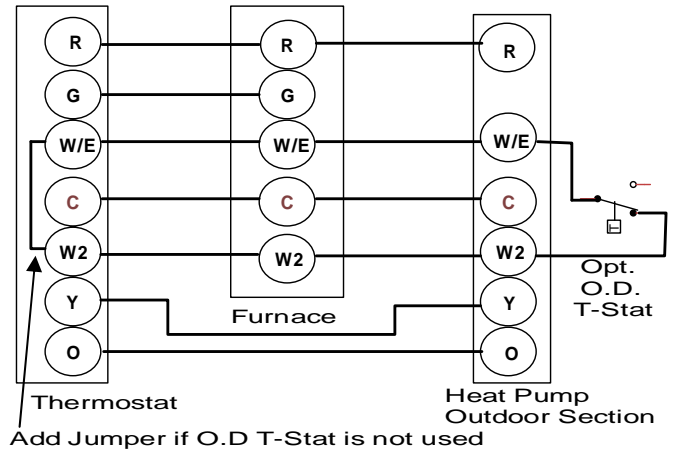

Figure 25: Typical Heat Pump / Heating / Cooling Connections
13. If a two stage outdoor unit is used then connect the "W2" wire from the outdoor unit to the black wires discussed in step 12 and secure with a wire nut. Refer to Figure 25.